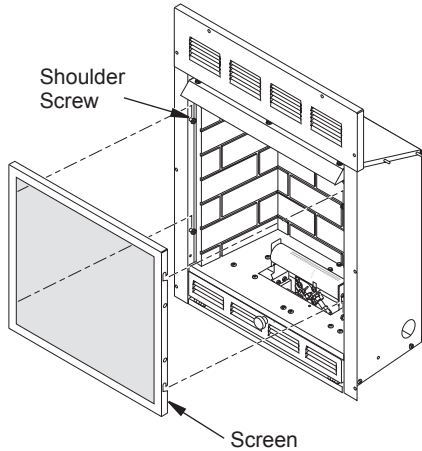

Figure 2 - Removing and Replacing Screen (Mantel Not Shown)
1. Remove two screws that hold fireplace screen in place for shipping. These screws are located near top of screen. Discard screws. Lift fireplace screen up and pull out to remove (see Figure 2). Set screen aside until installation has been completed.